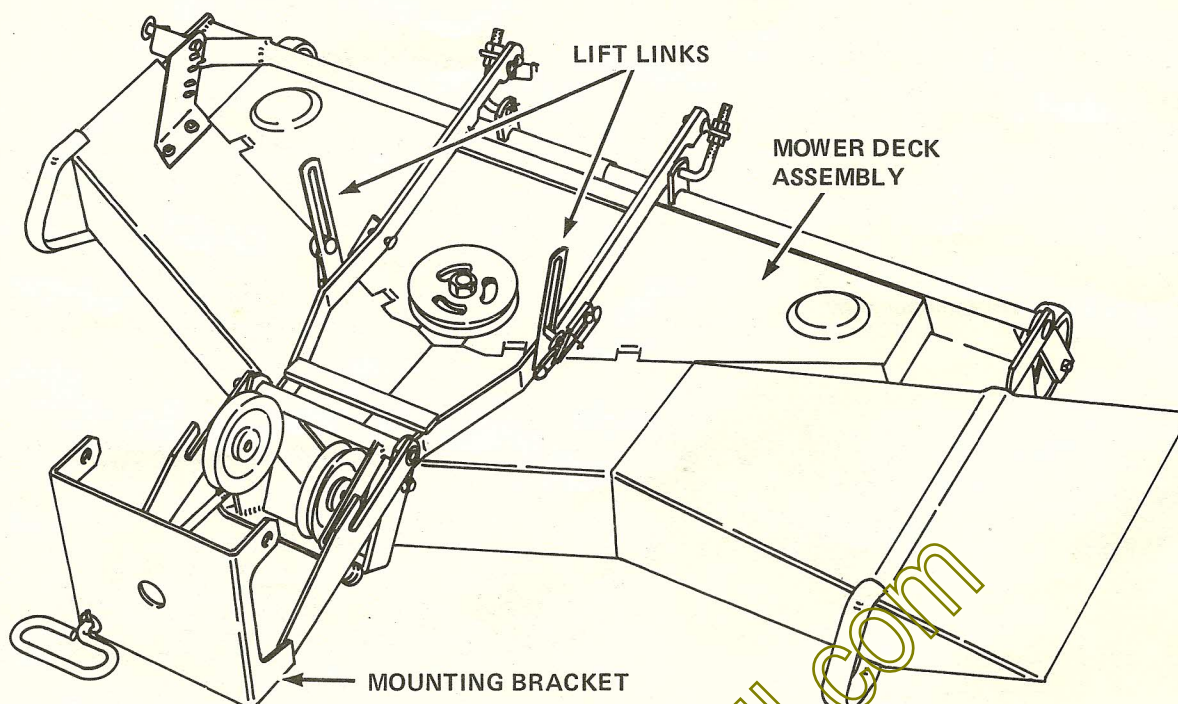

FIGURE 13 MODEL L44 ROTARY MOWER - ASSEMBLED
3. Use cotter pins to fasten the lift links to the mounting bracket. See Figure 13.
**NOTE:** Do not assemble the mounting bracket to the lawn mower deck as shown in Figure 13. It is easier to first install the mounting bracket on the tractor.